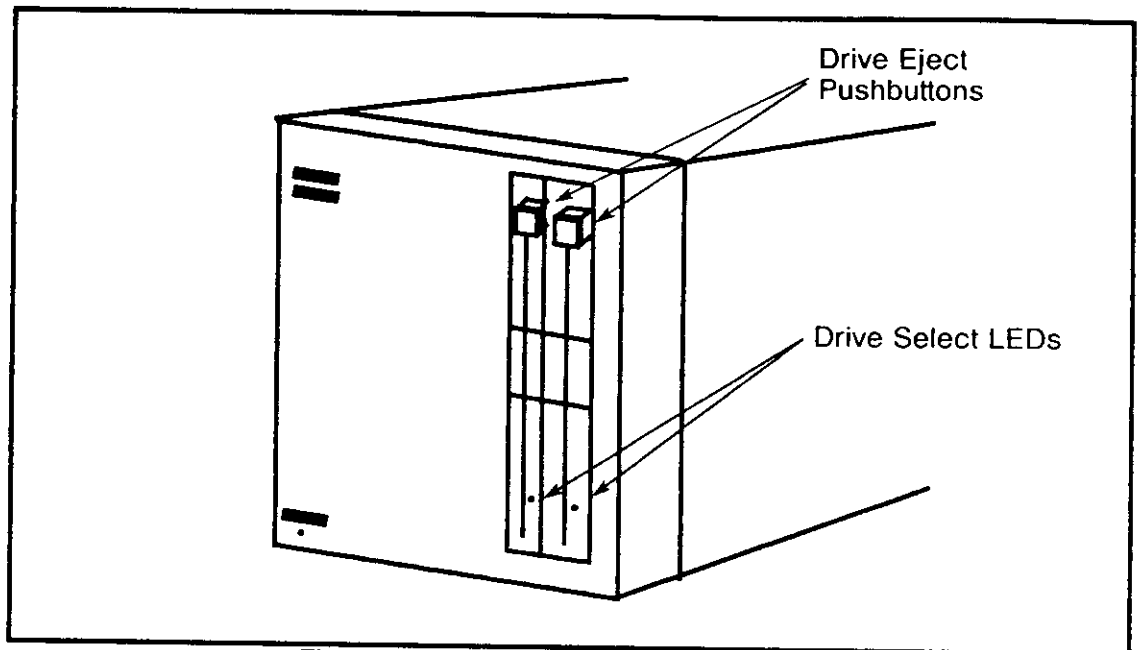

Figure 2.14 Floppy Diskette Ejection
2. Press the drive eject pushbutton in so that it pops out to the off position (Figure 2.14). The floppy diskette will be ejected 2 to 3 cm.